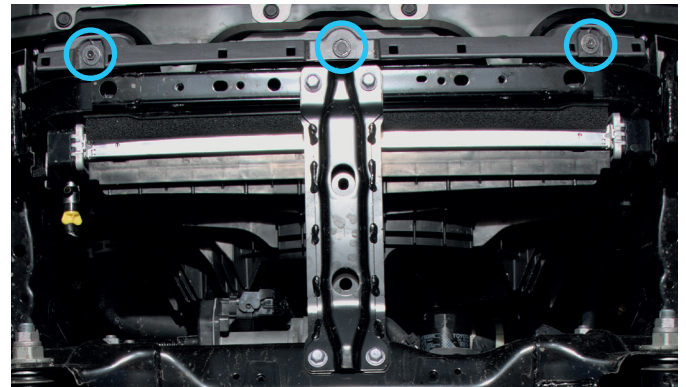

Fig. 4
4. Fix factory plastic cover to pre-installed mounting bracket (item 2) using factory bolts from step 3 as shown in fig.4.